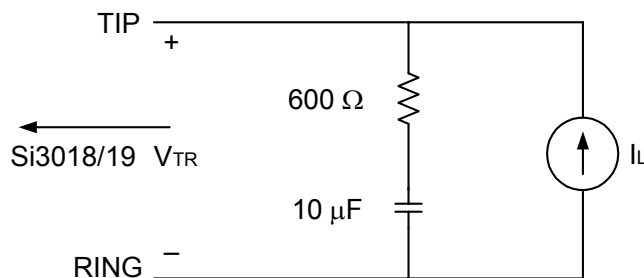

Figure 1. Test Circuit for Loop Characteristics
($V_D = 3.0$ to 3.6 V, $T_A = 0$ to 70 °C for K-Grade, see Figure 1 on page 6)
- Measured at TIP and RING with 600Ω termination at 1 kHz, as shown in Figure 1 on page 6.
1. Measured at TIP and RING with 600Ω termination at 1 kHz, as shown in Figure 1 on page 6.